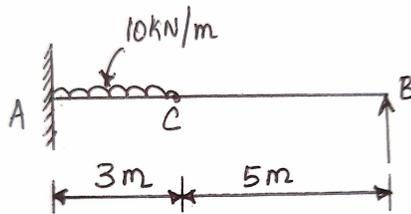

Figure.2
12. For the propped cantilever shown in figure.2, find the support reactions and draw the BMD. 16 CO2 [K₄]